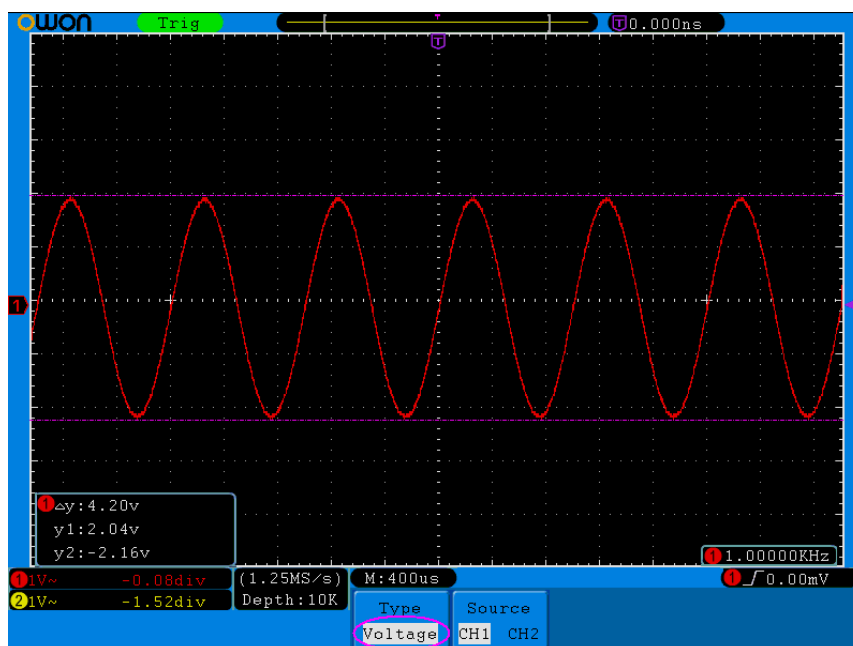

Figure 5-72 Waveform of Voltage Cursor Measurement
4. According to the measured waveform, adjust the positions of Cursor1 and Cursor2 by turning the **VERTICAL POSITION** knob of CH1 and CH2. Cursor increment window at the left bottom of waveform shows absolute value of D-value of cursor 1 and cursor 2 and the present position of the two cursors (see *Figure 5-72*).